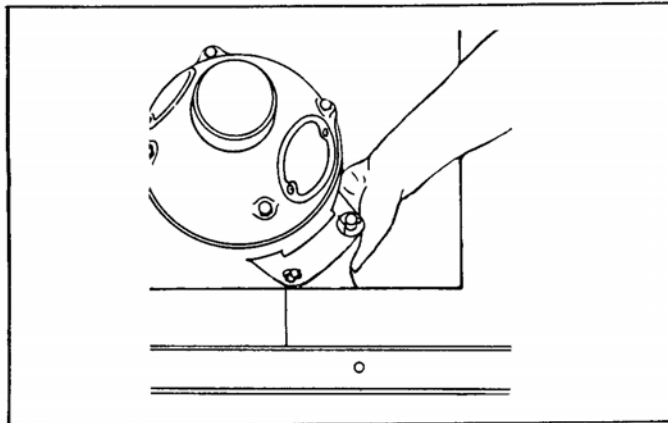

Fig. 6.
8. When the pivot pin is in place with the front washer and cotter pin, tilt the saw arbor up to the highest position which brings the motor to a convenient position for inserting the rear cotter pin as shown in Fig. 6.